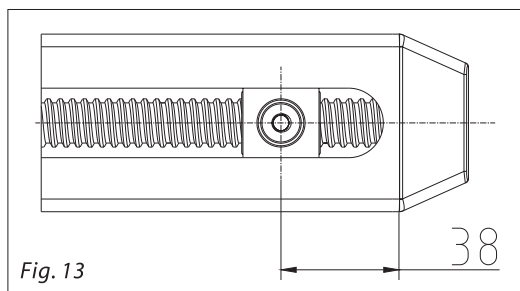

Fig. 13
3) Check if the front bracket fitting is in the correct position as shown in Fig. 13, if this not the case, temporarily supply power to the operator to position the fitting